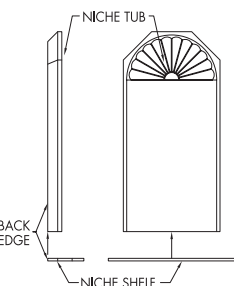

FIGURE 2A
2. Apply the Niche shelf to the niche tub making sure that the back edges are even and the shelf is centered with the tub (SEE FIGURE 2A).